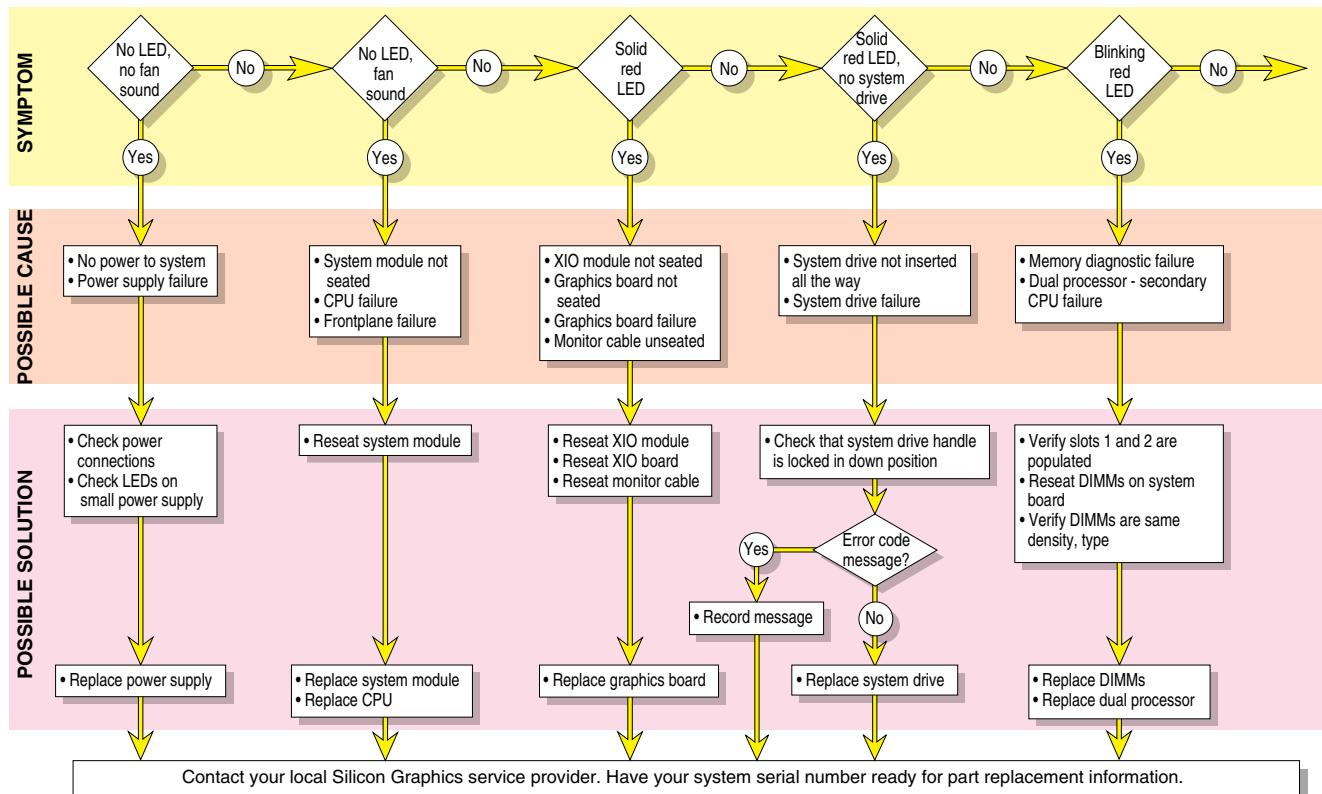

Figure 9-1 Lightbar LEDs - Front of OCTANE, Diagnostic Chart #1
- Lightbar LEDs - Front of OCTANE, Diagnostic Chart, Figure 9-1.